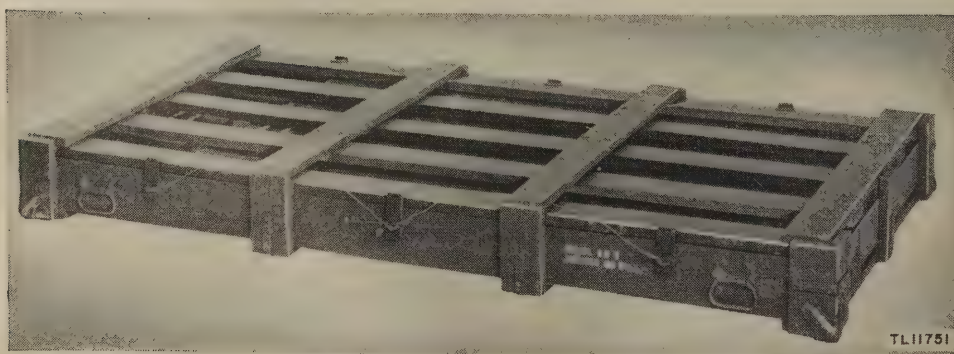

Figure 92. Shelter HO-20-A, crate No. 5.
- (9) Pack caulking compound at far end of crate, top to side of crate.
- (10) Pack caulking gun carton on its edge next to caulking compound.
- (11) Pack the three cloth bags containing screws, nuts, bolts, and other accessories in the hardware box (space for electrical supplies in some models).
f. CRATE No. 5 (fig. 92). Pack interior panels, except for interior panel No. 10 which remains